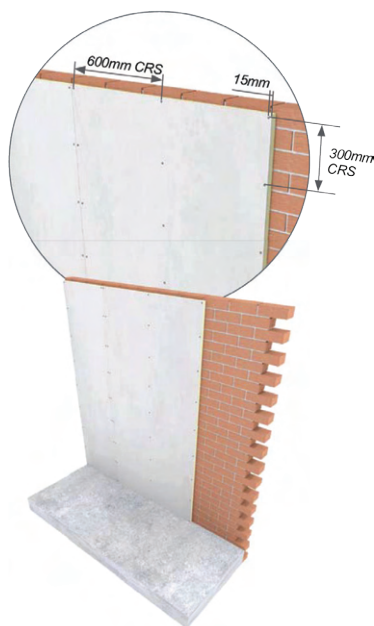

Figure 1.6. Masonry brick or block wall
- Screws should be fixed at a maximum of 600mm CRS horizontally and 300mm vertically as shown in figure 1.6. (Note: The substrate and fixing materials must be fit for purpose. Design loading on the board is not to exceed 0.375kPa for this fixing pattern. Additional fixings may be required when the boards are subjected to greater wind loads.) Please contact Conqueror NZ for advice.